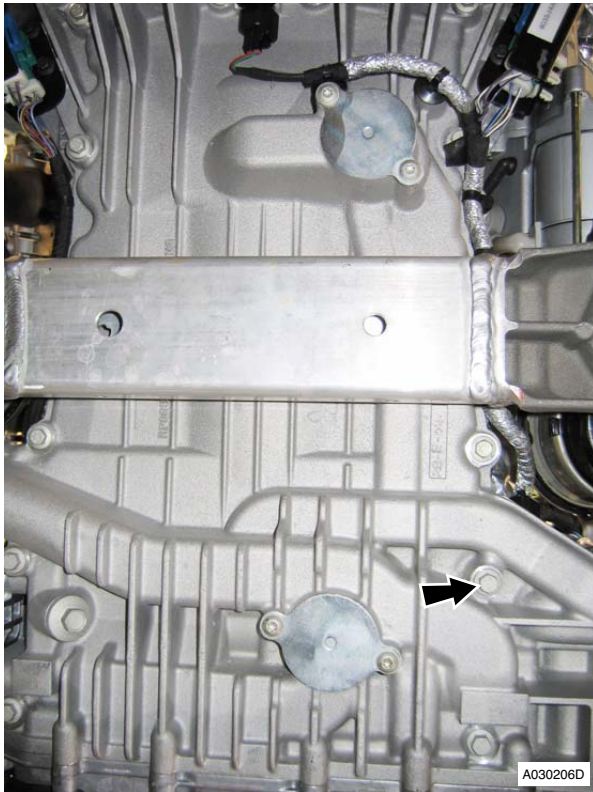

Figure 9
- Remove bolts (x16) that attach the sump to engine bedplate (refer to Figure 9).